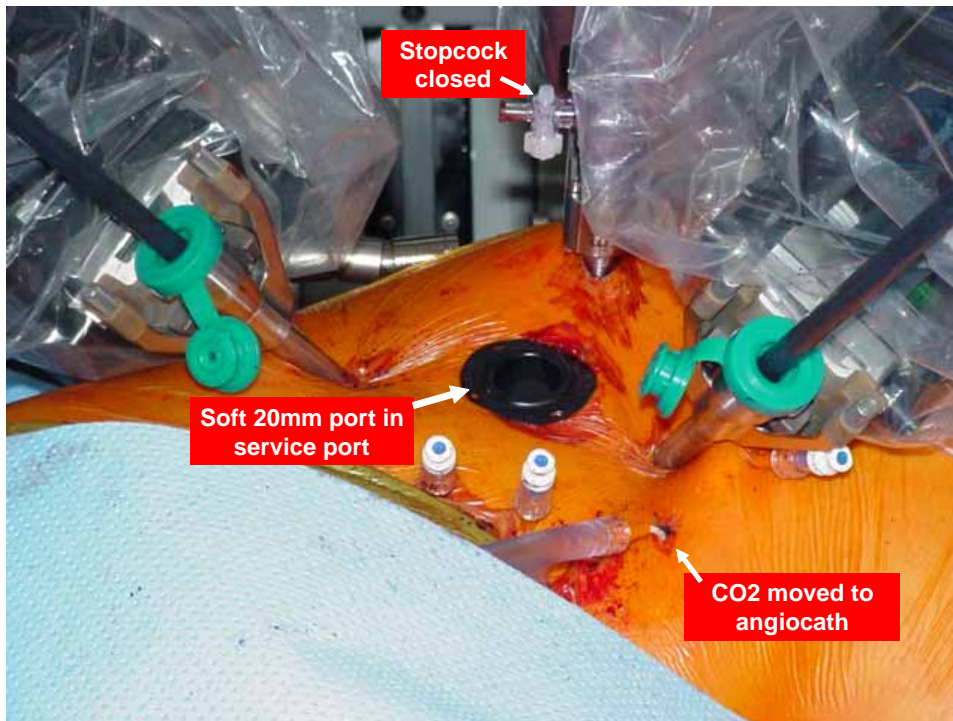

Figure 15: *da Vinci* Patient Cart docked
- Place a 20mm Ethicon Flexipath port into the working port. Tailor the length if necessary to extend about .5 to 1.0 cm into the pleural space. This soft, flexible port is used so there is no working port interference with the right instrument arm when dissection is carried out far to the left, up over the aorta. It is also easy to occlude this soft port to allow insufflation of the pleural space with CO₂ [Figure 15].